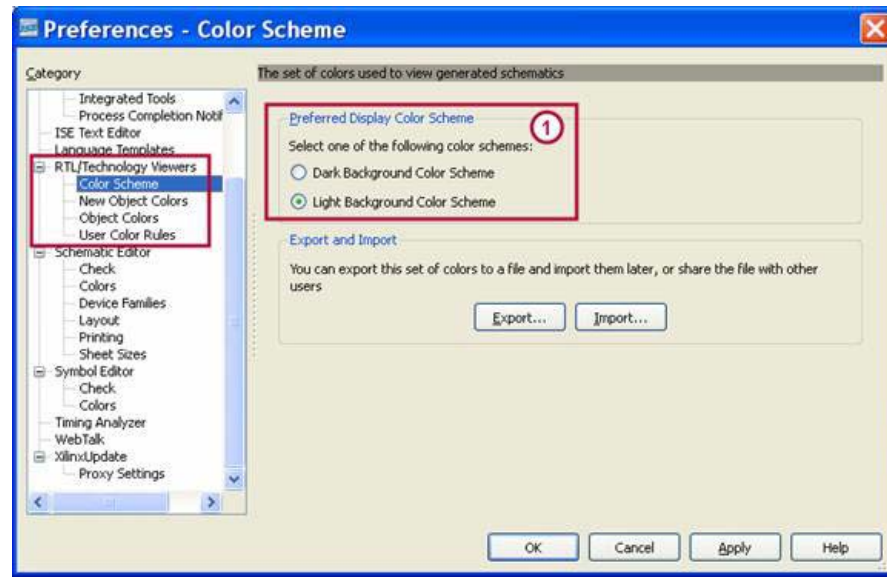

Figure 3-1: Color Scheme Selection
3. Select **Light Background Color Scheme** in zone 1 (see Figure 3-1) of the dialog box, click **Apply**, and click **OK** to finish.